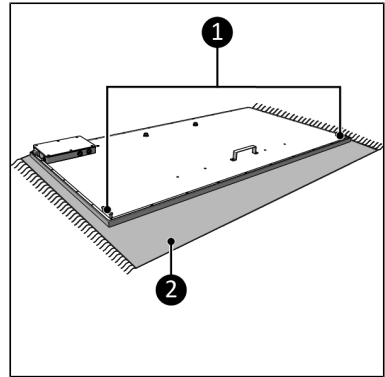

Figure 26.
1. Lay the device down on a steady, soft surface (Figure 26, pos. 2).
2. Remove the bottom screws (4x) on the back of the heater (Figure 26, pos. 1).